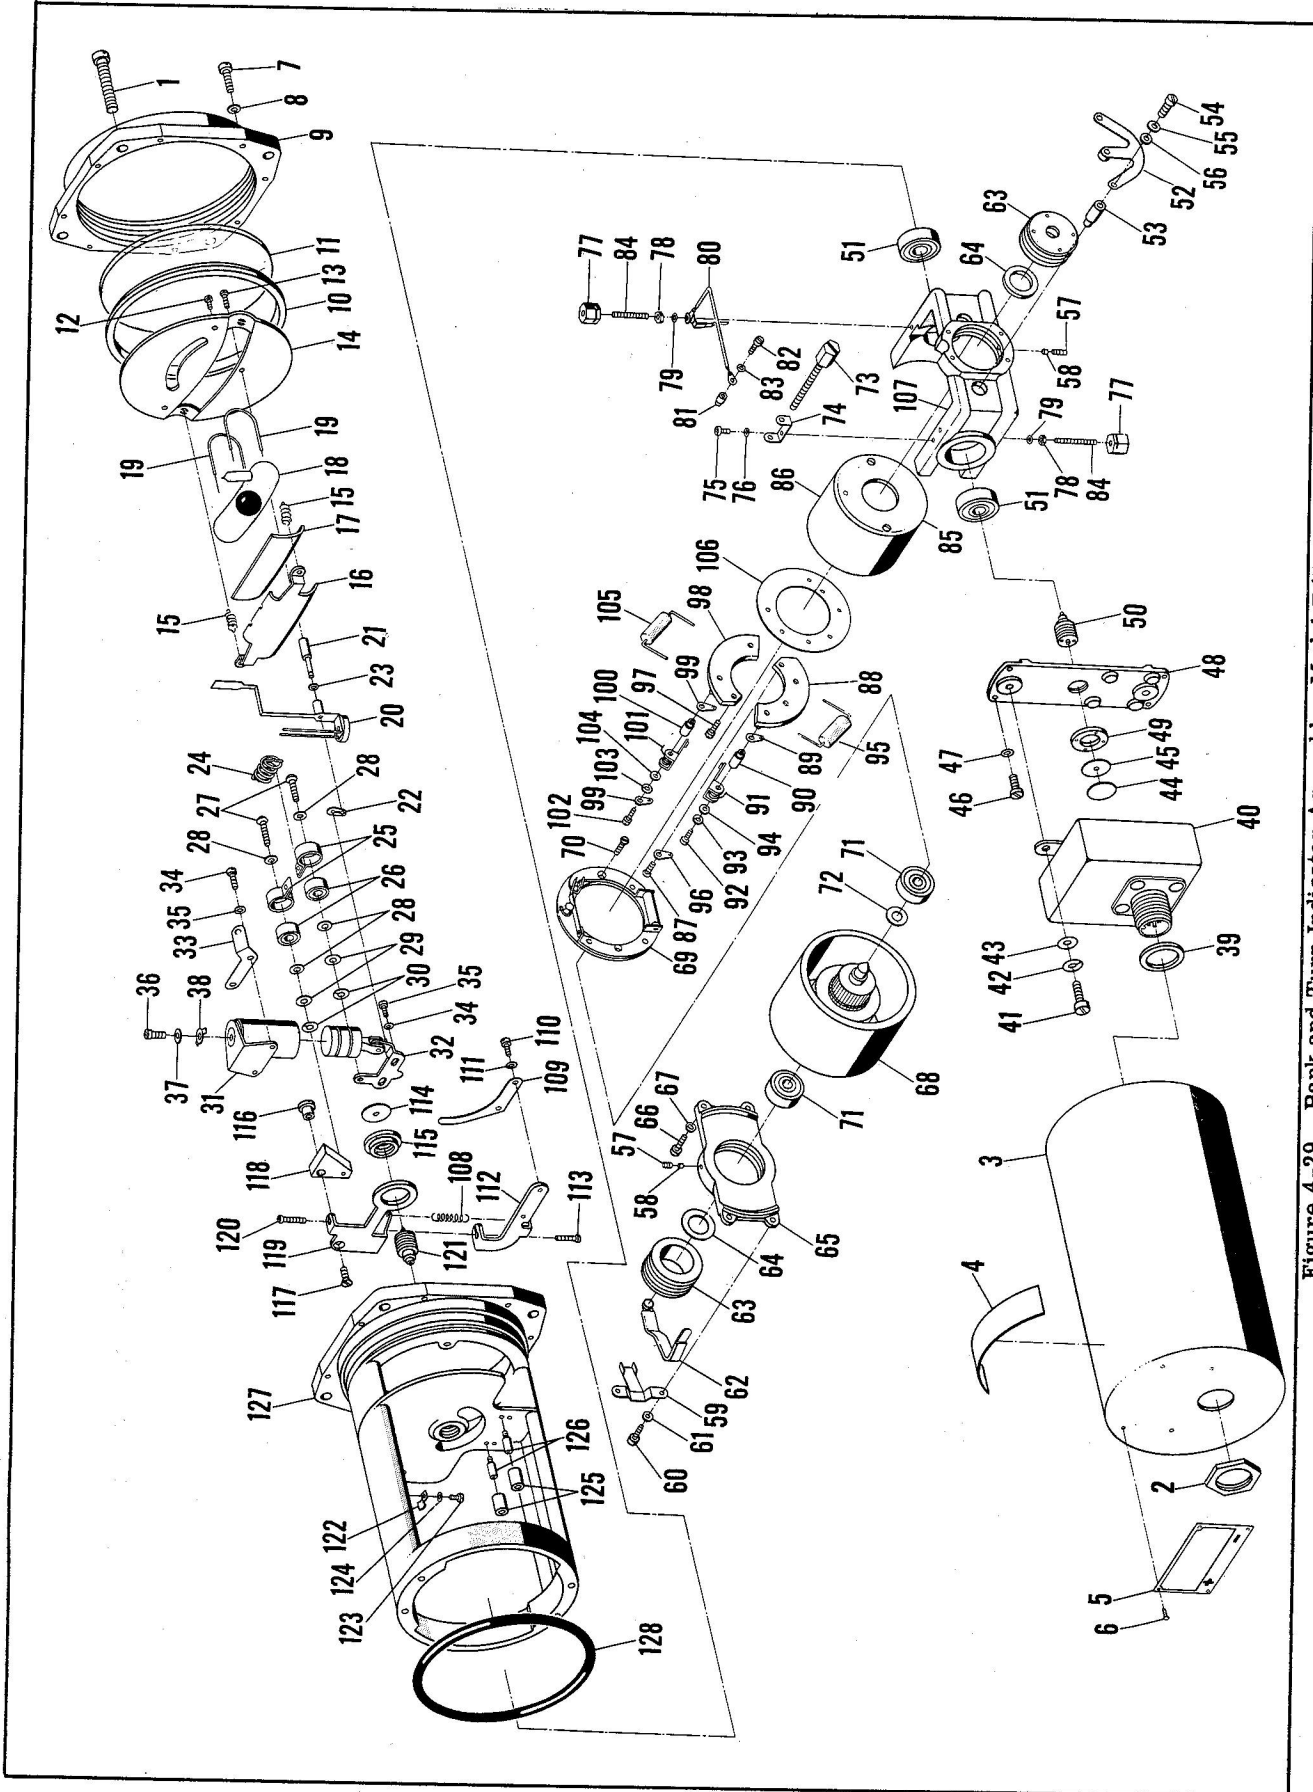
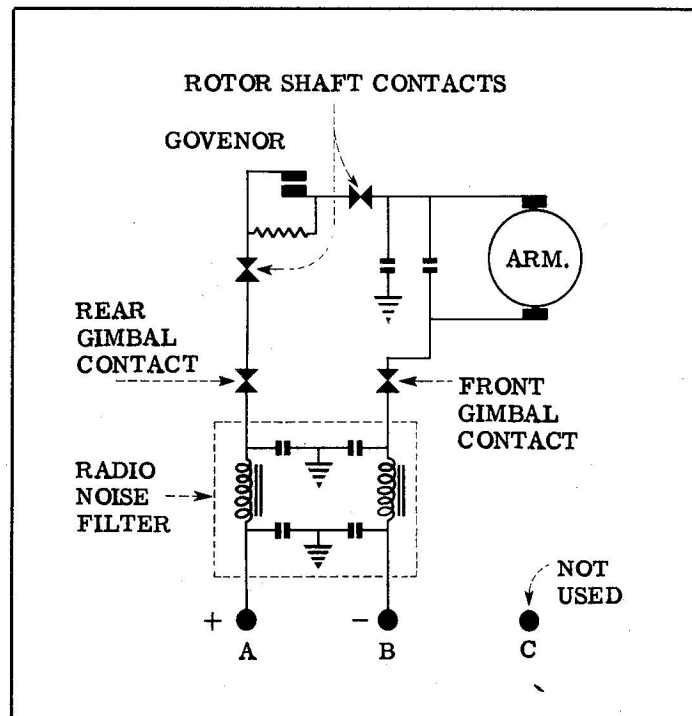

Figure 4-29. Bank and Turn Indicator Assembly, Model B4B-T
Figure 4-30. Wiring Diagram, Model B4B-T
DISASSEMBLY. (See figure 4-29.) Same as Model B4 except that filter assembly (40) replaces individual radio noise filtering components used on Model B4, and insulation (44) is used between insulating washer (45) and the filter assembly. The negative side of the electrical circuit is insulated throughout with insulation (81), and (114), and pivots (90), and (100). Condenser (105) is used between negative brush arm assembly (101) and ground. See figure 4-30 for wiring diagram. Rear plate (48) is mated to frame (127). Gimbal end (65) is mated to gimbal (107).
TEST PROCEDURE. Same as Model B4 except that pointer deflections must be within tolerances listed in Table XIII. See figure 4-30 for wiring diagram.
KEY FOR FIGURE 4-29